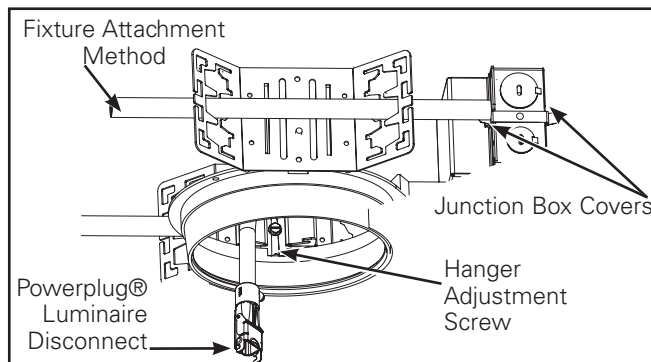

Figure 1.
2. Hanger Adjustment Screw: Adjust hanger adjustment screws so bottom of plater ring is flush with finished ceiling line. Hanger bracket is reversible for total adjustment of 5" (Figure 1.).